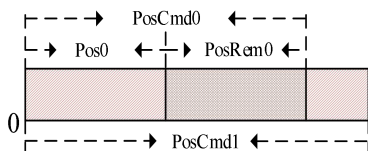

Fig. 12.15 Schematic diagram of absolute position command operation
③ The absolute position command takes the position value relative to the absolute zero (set by  $Pn296$  and  $Pn297$ ) as the reference point. As shown in Figure 12.15, the first segment position command is set to  $PosCmd0$ , and after running the pulse of  $Pos0$ , the second segment absolute position command  $PosCmd1$  is inserted, then the total number of pulses run by the second segment position command, is  $PosCmd1 - Pos0$ , and the final operation position value is  $PosCmd1$ .